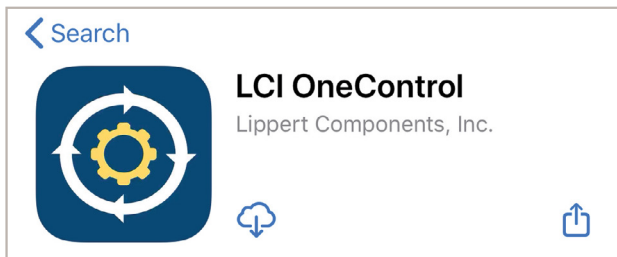

Fig.1
1. Download the LCI OneControl app (Fig.1) for either an iOS or Android smart phone.